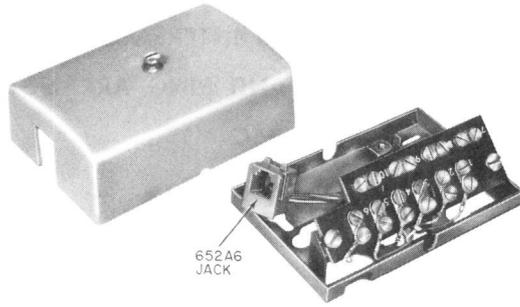

Fig. 1—74D Connecting Block
1.04 A 74D connecting block (Fig. 1) or equivalent can be used to provide the 6-position modular jack required for this arrangement.